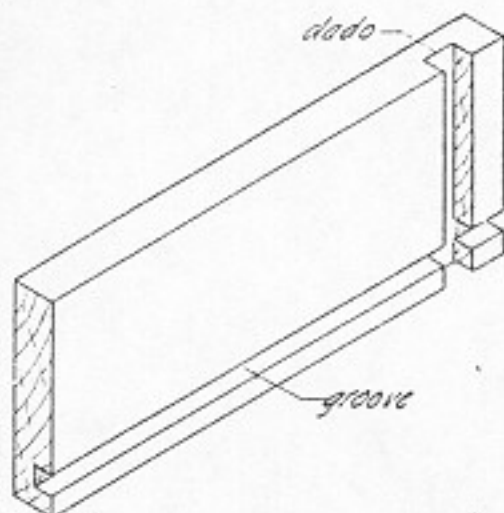

Fig. 187. Side of drawer showing groove and dado.
71. Making a Groove. A groove is a recess like a dado, but it is cut *along* the grain of the wood (Fig. 187). Grooves are used in drawer construction, panel work, and on flooring, sheathing, etc. Panels, drawer bottoms, and tongues of flooring and sheathing are not glued into grooves.